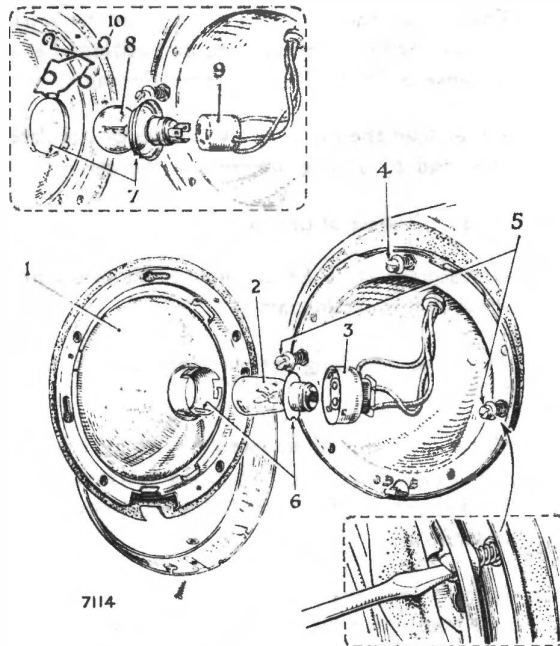

Fig. 24 Headlamp Assembly (Early Models)
#### Adjustment of Setting (Refer to Fig. 24)
#### To remove glass and reflector assembly (Refer to Fig. 24)
#### To renew bulbs (Refer to Fig. 24)
- KEY TO FIG. 24